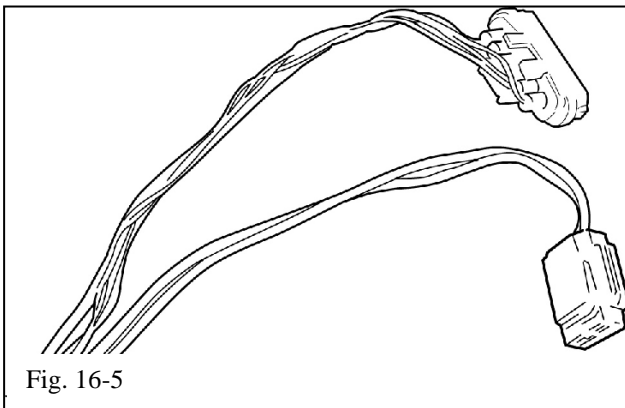

Fig. 16-5
- (g) Open the wire harness and remove the wire loom wrap up to the junction where the wire loom that contains the throttle and air injection wires branch out from the main harness (Fig. 16-5).
- (h) Separate the throttle motor wires from the air injection wire (Fig. 16-5).